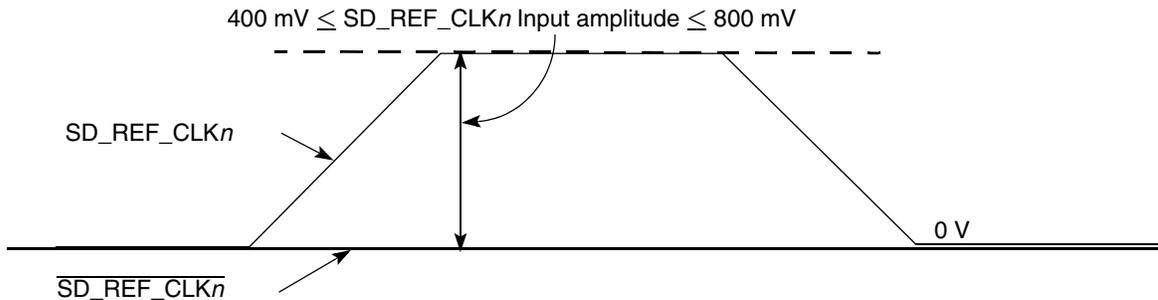

Figure 36. Single-Ended Reference Clock Input DC Requirements
- The $\text{SD_REF_CLK}n$ input average voltage must be between 200 and 400 mV. Figure 36 shows the SerDes reference clock input requirement for single-ended signaling mode.